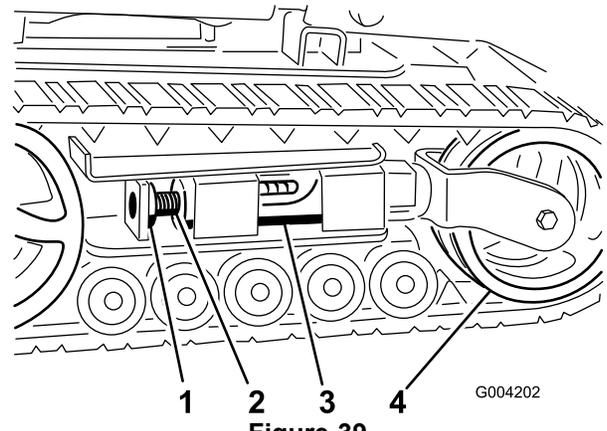
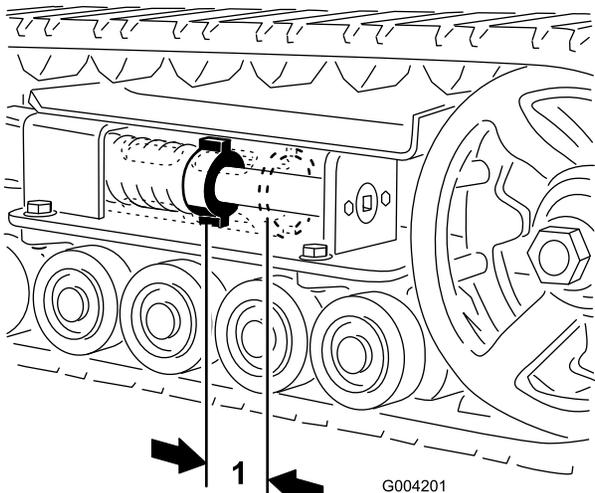
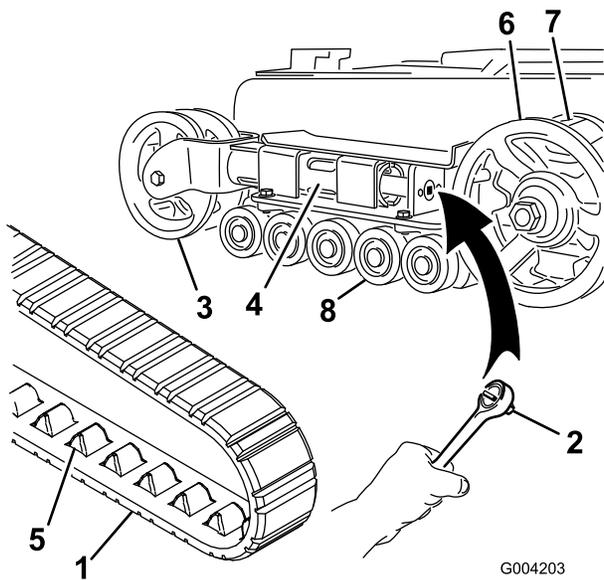
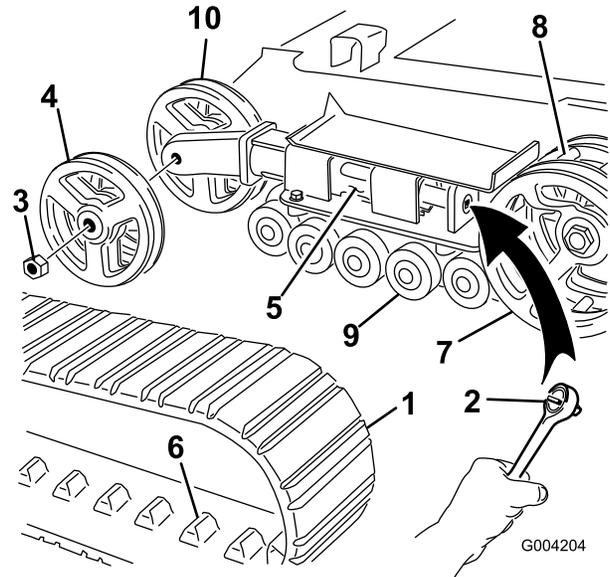

Figure 39
Figure 38
Figure 40
Figure 41
There should be 2-3/4 inches (7 cm) between the tension nut and the back of the tension tube (Figure 38). If not, adjust the track tension using the following procedure:
3. Remove the locking bolt and nut (Figure 39).
4. Using a 1/2 inch drive socket (Figure 40), turn the tensioning screw counter-clockwise until the distance between the tension nut and the back of the tension tube (Figure 38) is 2-3/4 inches (7 cm).
5. Align the closest notch in the tension screw to the locking bolt hole and secure the screw with the locking bolt and nut (Figure 39).
4. Using a 1/2 inch drive socket, release the drive tension by turning the tensioning screw clockwise (Figure 39 and Figure 40).
4. Using a 1/2 inch drive socket, release the drive tension by turning the tensioning screw clockwise (Figure 39 and Figure 41).
5. Push the tension wheel toward the rear of the unit to move the fork tube against the frame (Figure 40). (If it does not touch the frame, continue turning the tensioning screw until it does.)
7. When the track is off of the tension wheel, remove it from the drive sprocket and road wheels (Figure 40).
8. Beginning at the drive sprocket, coil the new track around the sprocket, ensuring that the lugs on the track fit between the spacers on the sprocket (Figure 40).
9. Push the track under and between the road wheels (Figure 40).
11. Turn the tensioning screw counter-clockwise until the distance between the tension nut and the back of the fork tube (Figure 38) is 2-3/4 inches (7 cm).
5. Push the tension wheel toward the rear of the unit to move the tension tube against the frame (Figure 41). (If it does not touch the frame, continue turning the tensioning screw until it does.)
6. Remove the nut securing the outer tension wheel and remove the wheel (Figure 41).
7. Remove the track (Figure 41).
8. Remove the nut securing the inner tension wheel and remove the wheel (Figure 41).
12. Install the inner tension wheel and secure it with the nut removed previously (Figure 41).
14. Install the new track, ensuring that the lugs in the track fit between the spacers in the middle of the drive sprocket (Figure 41).
15. Install the outer tension wheel and secure it with the nut removed previously (Figure 41).
17. Turn the tensioning screw counter-clockwise until the distance between the tension nut and the back of the tension tube (Figure 38) is 2-3/4 inches (7 cm).